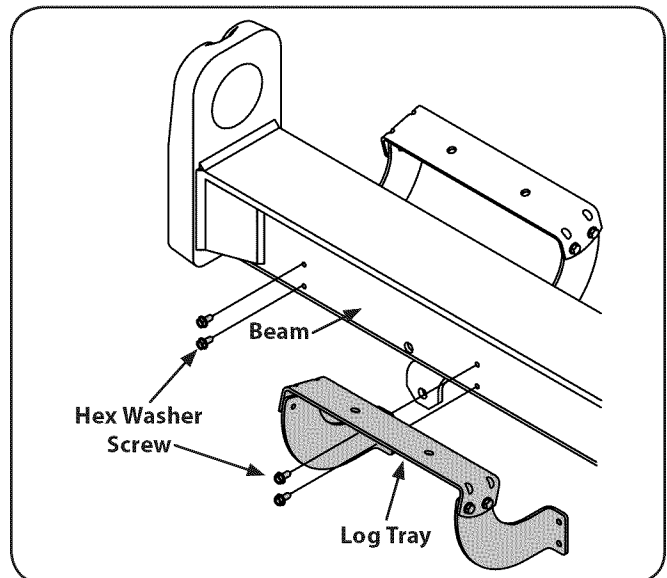

Figure 3-5
- Disconnect the log tray from the beam on the side of the control valve by removing the two hex washer screws that secure it to the beam and the two hex washer screws in the beam. See Fig. 3-5.